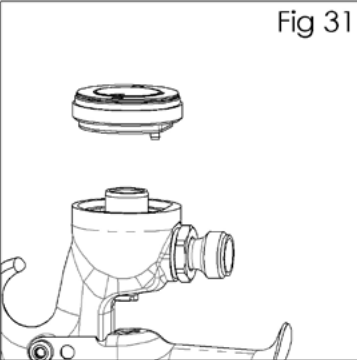

Fig 32
6. Remove seal (10) from spray head. (See fig 32).